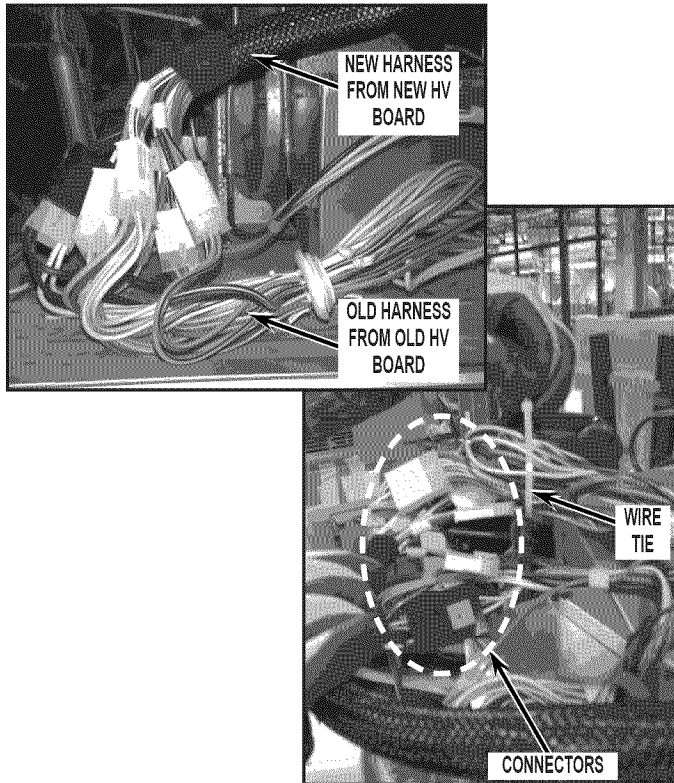

FIGURE 13
- Connect all wiring connectors removed from the old HV board in step 9, to the new HV assembly harness. Secure with wire tie provided. Cut off excess wire tie. See *Figure 13*.